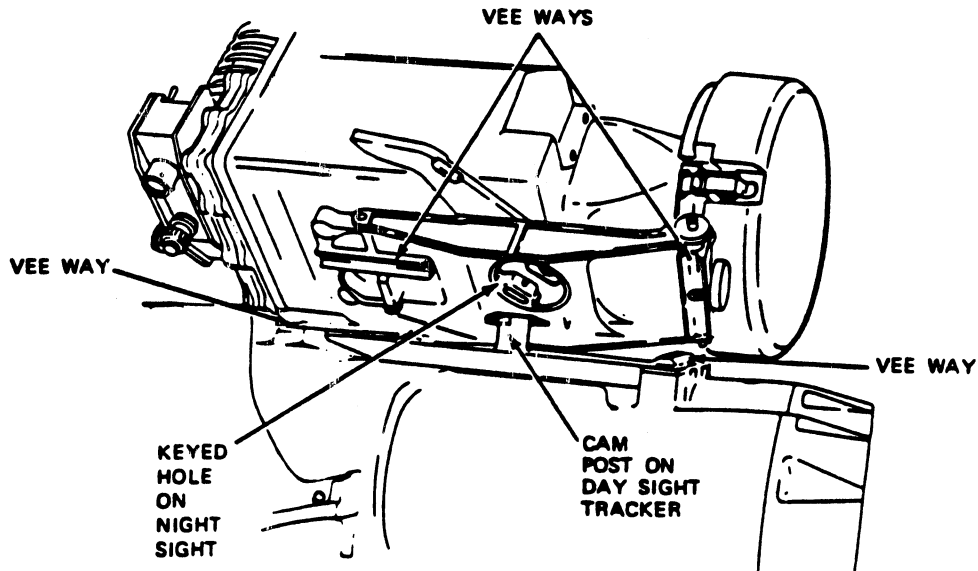

Fig 2-31. Installing night sight.
Step 2. Check the locating "VEE WAYS" on the night sight and day sight tracker for foreign material. Line up the keyed hole on the night sight with the cam post on the day sight tracker (fig 2-31).